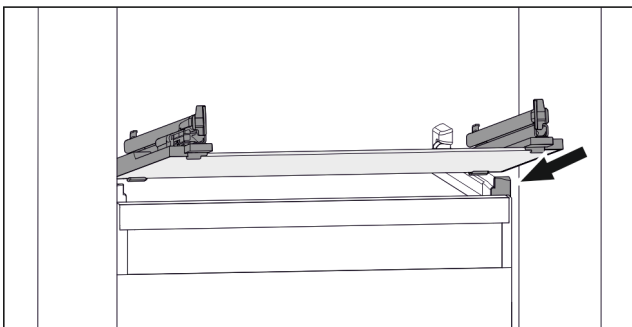

Fig. 75 Example illustration of glass shelf
- ▶ Position glass shelf at an angle behind the stoppers. (see Fig. 75)